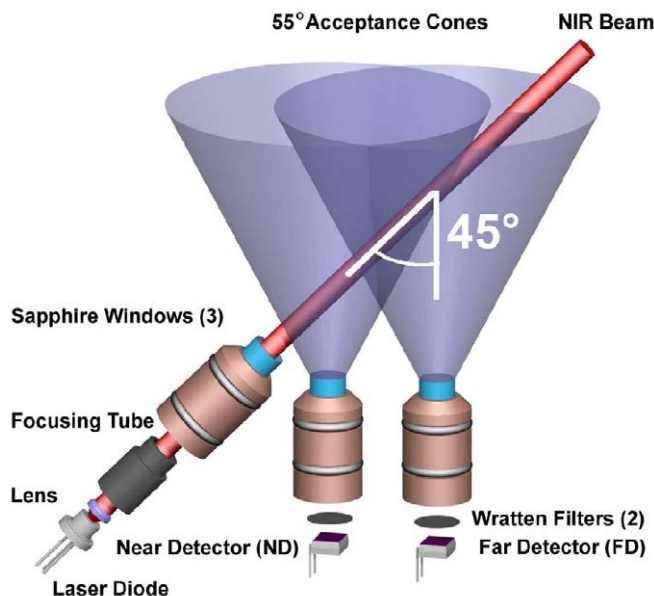

FIGURE 4-2. Schematic of optical system
The heart of the OBS-5+ is an optical system comprised of a near infrared (NIR) laser diode and a photodetector positioned 10 mm from the laser, called the near detector (ND), and one mounted 25 mm from the laser, called the far detector (FD), see FIGURE 4-2. The detector acceptance-cone angle is 55°, which means that photons must enter the detector sapphire windows at angles less than 27.5° to be detected. The laser light is collimated to a 3 mm by 1 mm elliptical beam with convergence < 2.5 mrad. The angle between the NIR beam and detector acceptance-cone axes is 45°. The OBS-5+ can detect light scattered by particles illuminated by the NIR beam at angles between 105° to 165°. With its automatic-power-control circuit, the laser diode provides stable optical power over time and the 0 to 30°C operating temperature range.
In FIGURE 4-2, suspended particles scatter light from the NIR beam onto the near and far detectors, and suspended solids concentration (SSC) is estimated with signals counts from these detectors by a microcontroller, using a set of logic rules and lookup tables derived from calibration data. Counts are the digital equivalents of the ND and FD signals and are proportional to backscatter intensity. Sample calibration curves relating ND and FD counts to sediment concentration in g L^{-1} are shown on FIGURE 4-3. As particle concentration increases from 0, the ND and FD signals rise to maxima at peak concentrations, shown by the red (open) and blue (solid) arrowheads above the x axis. Beyond the peak sediment concentrations, light attenuation is the dominant factor controlling the light level at the detectors, and so the ND and FD counts decline. The scattered NIR must travel farther to be detected by the FD than by the ND, and therefore the peak of the FD curve occurs at a lower sediment concentration than the peak of the ND curve. The instrument exploits these peak offsets to estimate sediment concentration. Using either the ND or FD counts, whichever is indicated by the logic rules, the microcontroller does a spline interpolation between calibration values to derive an SSC value. It then combines this value with time and pressure data, and sends the results to a PC.